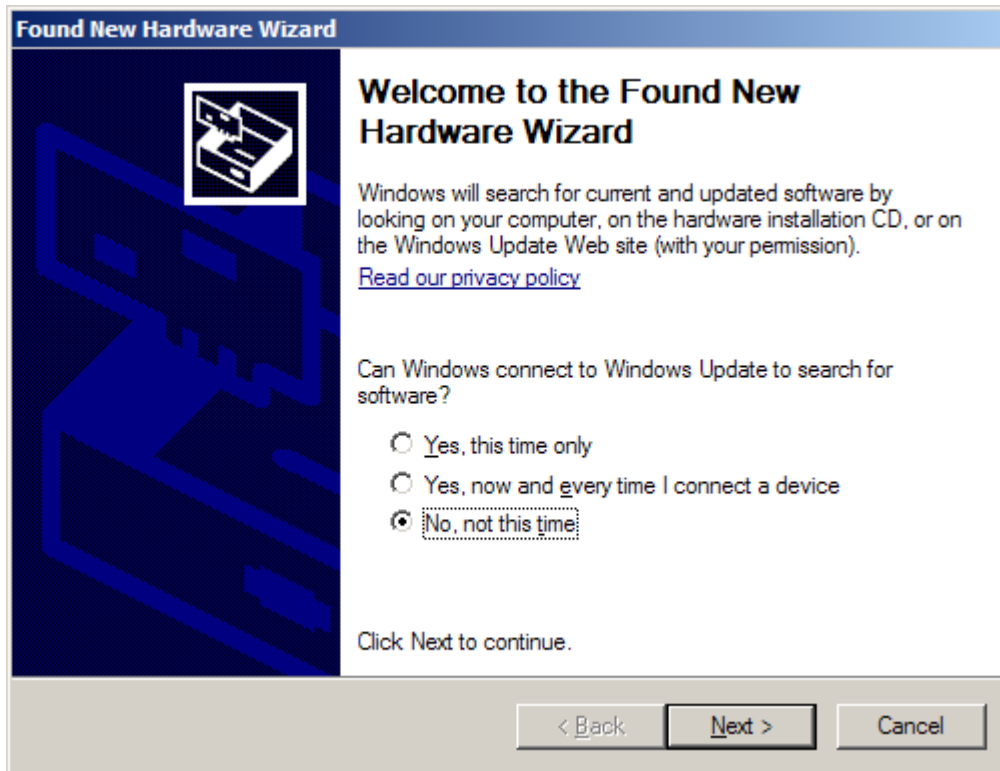

Figure 15. Install New Driver Wizard Screen 1
4. If you have not yet loaded the operating system drivers, Windows will display the Windows Install New Driver Wizard sequence (illustrated in Figure 15 through Figure 19). Accept the default settings.